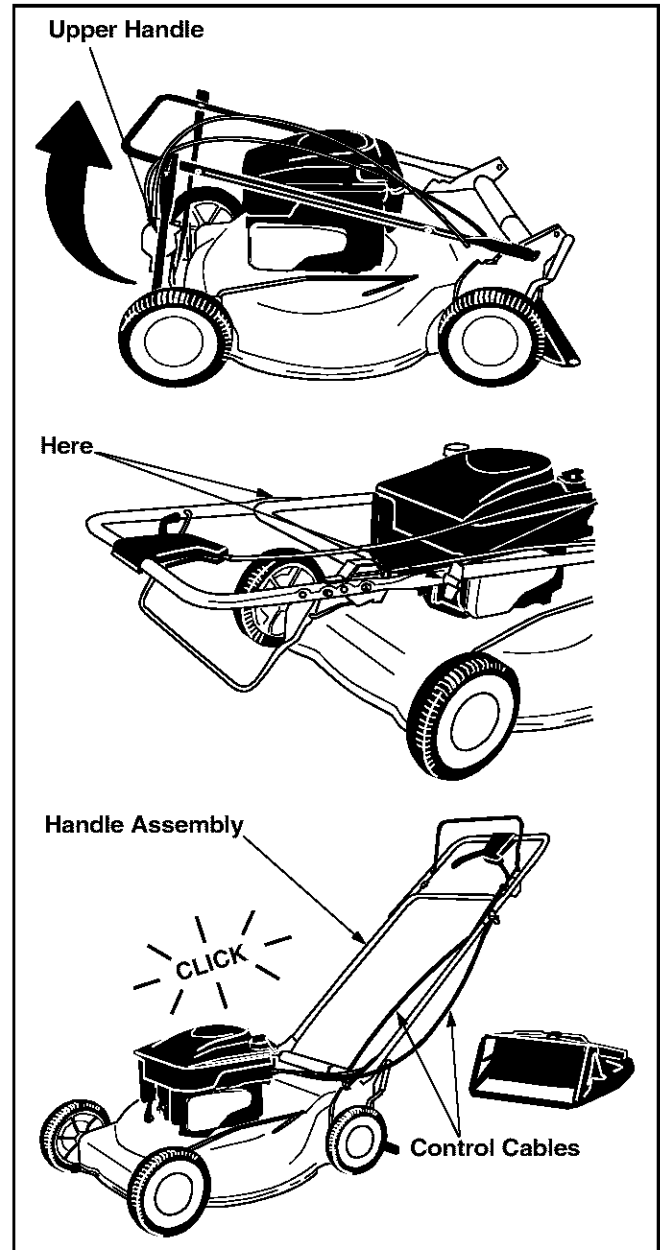

Figure 3
- Lift the upper handle and align it with the lower handle. See Figure 3.